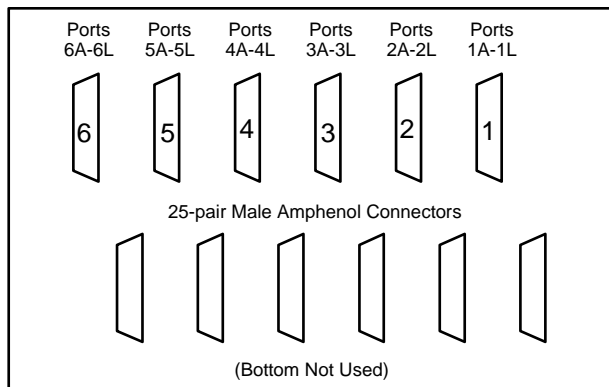

Figure 5. Octel 350 Main Backplane (rearview)
- Physically connect the lines used for the voice path between the switch and the Octel 350. The voice lines are connected to the switch using customer-supplied male-amphenol cables which terminate on the main backplane on the Octel frames. See *Figures 5 and 6*.